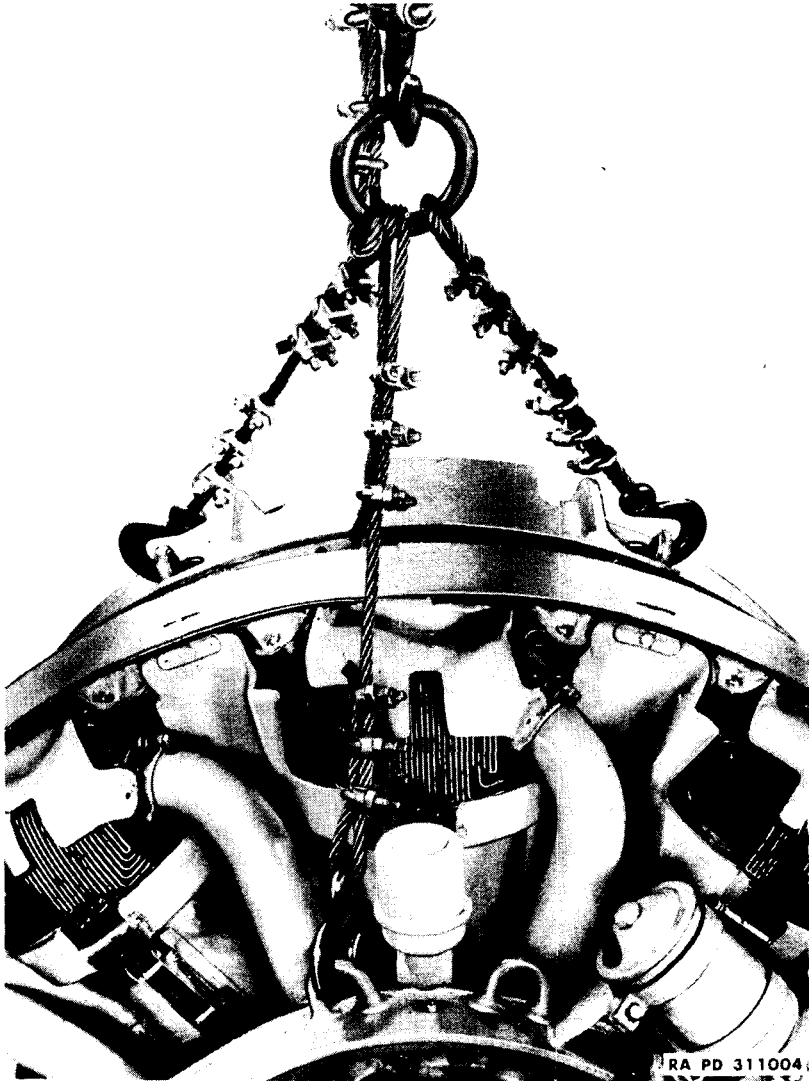

Figure 3 — Engine Lifting Sling 5A2228
(1) **GENERAL PREPARATION.** With the engine suspended in the lifting sling (fig. 3), remove the drain plug from the oil sump, and drain the accumulated oil. Remove exhaust manifolds, air heater manifold, air heater, air inlet elbows, oil line connecting oil cooler to oil pump and oil line connecting sump to oil pump. (Refer to pertinent 100-series manual for instructions.)